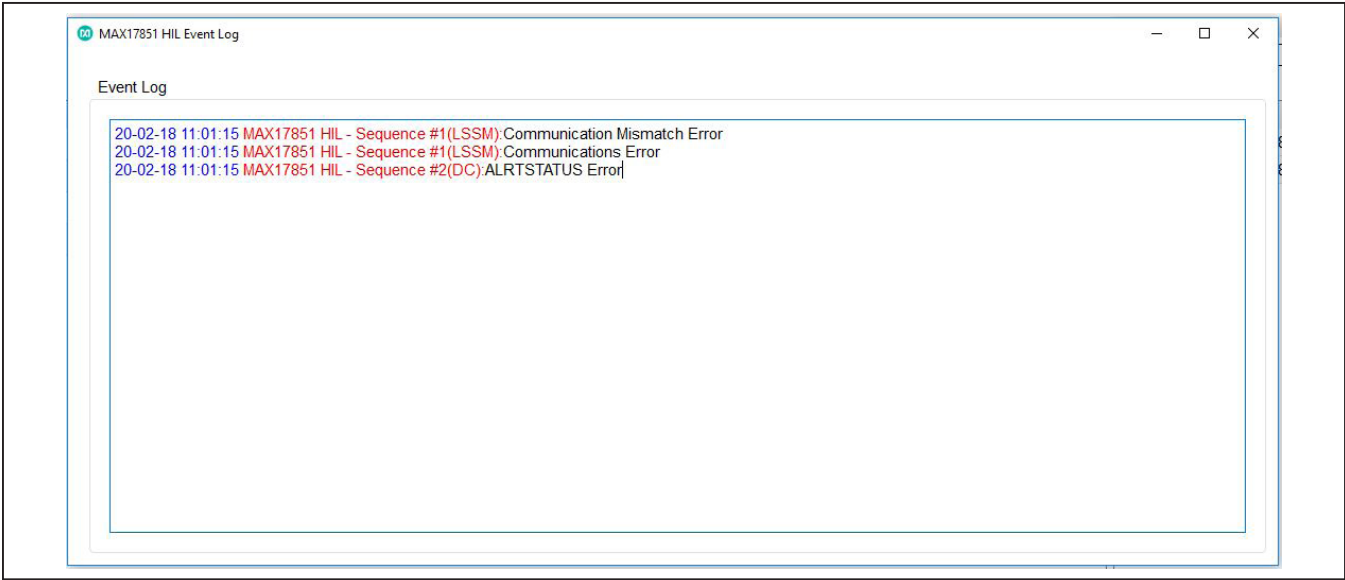

Figure 22. HIL event log
10) Click on the **Event Log** button located at the bottom right side of the **HIL** tab. In the **HIL Event Log** panel (Figure 22), observe the **LSSM** and **Data Check** byte faults that were simulated.